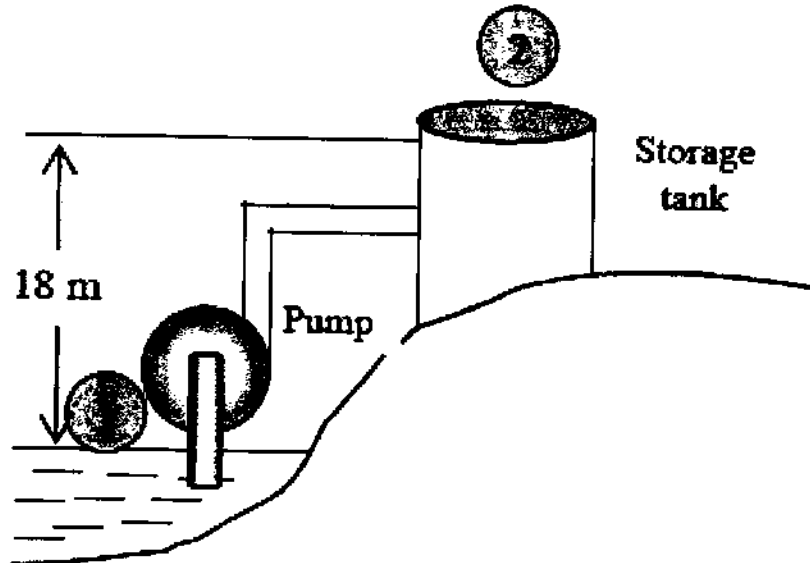

FIGURE Q4 (c)
- (c) Refer to **FIGURE Q4 (c)**, water is pumped from a lake to a storage tank 18 m above at a rate of 70 L/s while consuming 20.4 kW of electric power. Disregarding any frictional losses in the pipes and any changes in kinetic energy, calculate: